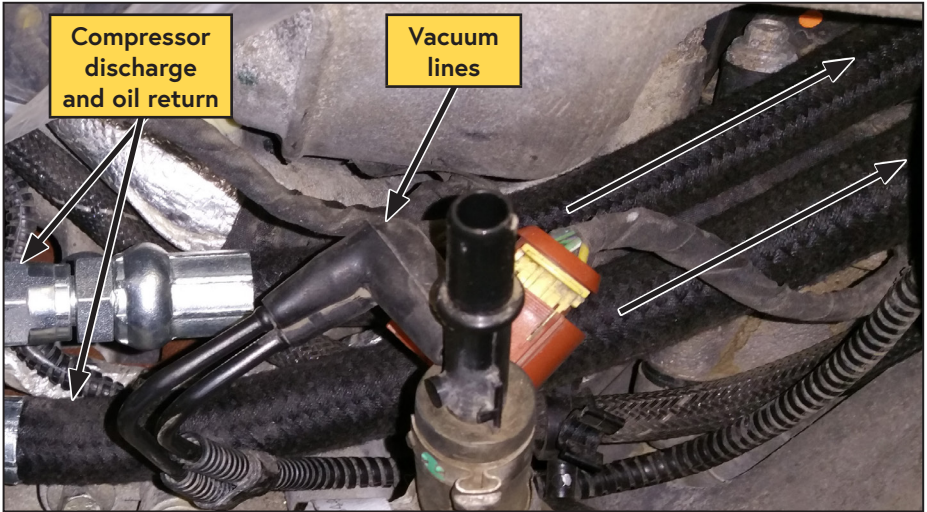

Figure 23 — Routing the hoses from the compressor
- Route the 1/2 in x 25 in discharge hose, the 3/8 in x 240 in oil return hose, and the 1/4 in x 240 in PTFE tube under the OEM intake manifold (Figure 23).
- Ensure the OEM vacuum lines and wiring are not pinched. The vacuum lines and/or wiring may need to be disconnected to route them correctly (Figure 23).